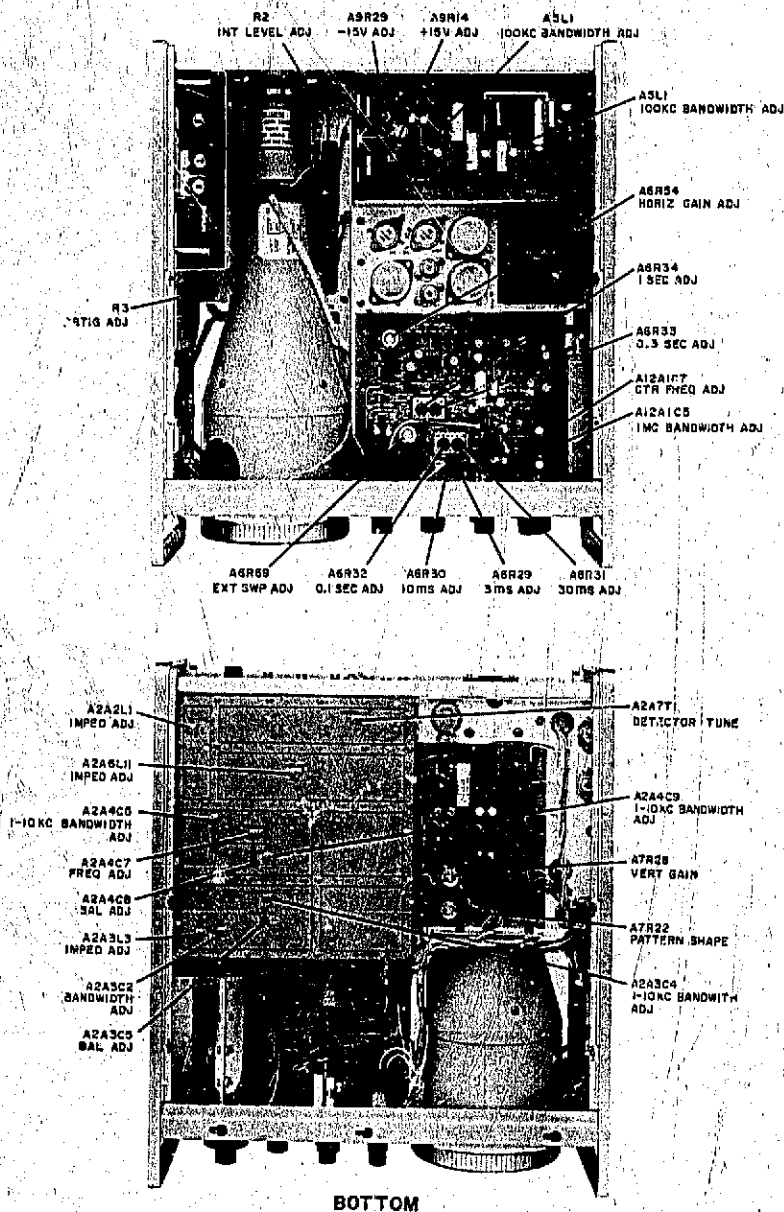

Figure 5-4. Model 851, Adjustment Locations
d. Set Int Level R2 max cw. (R2 is located to right of cathode-ray tube toward rear of instrument; see Figure 5-4.)